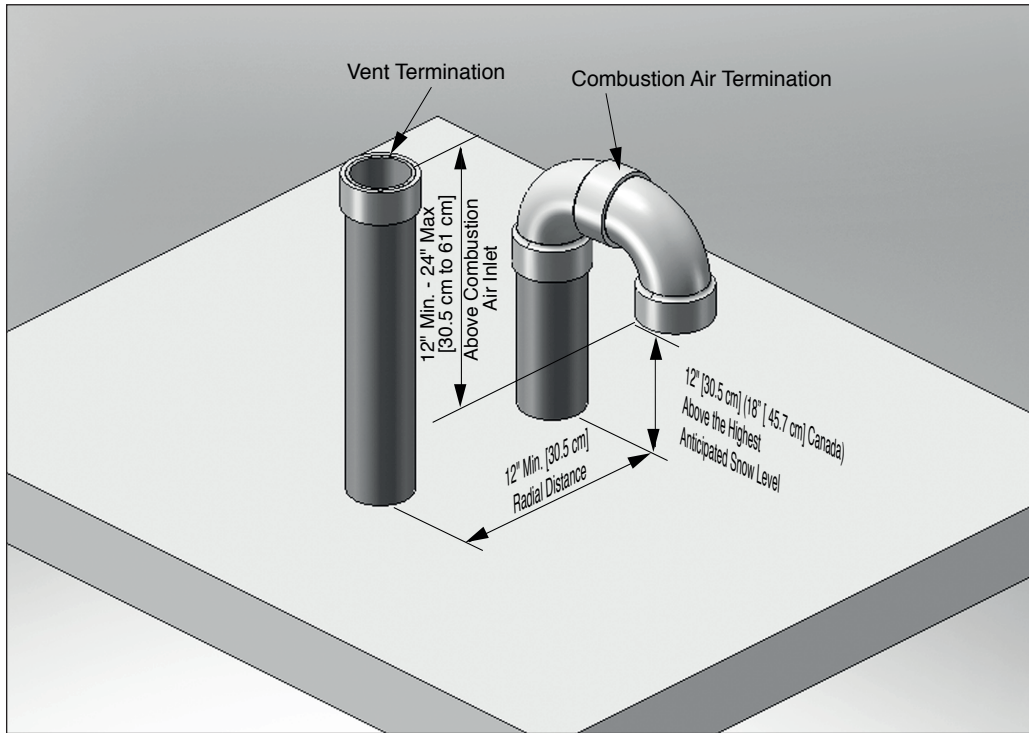

Fig. 1 - Direct Vent - Vertical Termination of Vent and Combustion Air Piping.
2. The combustion air piping must terminate in an upside down “U” shape fashion using two 90° elbows, as shown in *Fig. 1 on page 12.* The termination must be located 12” [30.5 cm] (18” [45.7 cm] in Canada) above the highest anticipated snow level.
3. The vent piping must terminate vertically with a coupling to accept the bird screen and must be located 12” to 24” [30.5 cm to 61 cm] above the combustion air inlet as shown in *Fig. 1 on page 12.*
4. The vent and combustion air terminations must be located at a radial distance of 12” to 24” [30.5 cm to 61 cm] from centerline of vent termination to centerline of air termination as shown in *Fig. 1 on page 12.*
3. Locate the vent and combustion air pipe penetrations to provide clearances as described in *Fig. 1 on page 12*.
2. The combustion air piping must terminate in an upside down "U" shape fashion using two 90° elbows as shown in *Fig. 1 on page 12*.
3. The vent piping must terminate vertically with a coupling as shown in *Fig. 1 on page 12*.
Do not extend the vent pipe above the roof beyond the dimensions shown in *Fig. 1 on page 12*. Extended exposure of the vent pipe could cause condensate to freeze and block the vent pipe, resulting in substantial property damage, serious injury, or death.